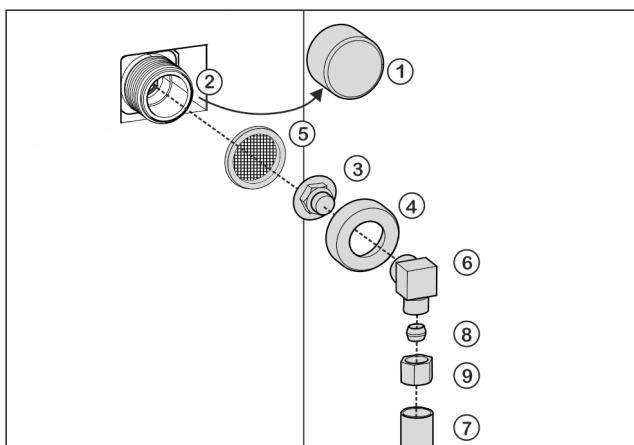

Fig. 19
- ▶ Insert coupler *Fig. 19 (3)* into union nut *Fig. 19 (4)*.
- ▶ Insert the filter *Fig. 19 (5)* with the recess pointing down towards the coupler *Fig. 19 (3)*.
- ▶ Screw the union nut *Fig. 19 (4)* by hand onto the thread of the solenoid valve *Fig. 19 (2)* until it is firmly in place.
- ▶ Screw on angle piece *Fig. 19 (6)*.
- ▶ Connect the water pipe *Fig. 19 (7)* (e. g. 1/4" OD copper pipe) with the clamp ring *Fig. 19 (8)* and nut *Fig. 19 (9)* to the elbow connector *Fig. 19 (6)*.
- ▶ If necessary: Fasten the water pipe *Fig. 19 (7)* to the housing with the guide clip.
- ▶ Put angle piece *Fig. 19 (6)* to one side.
- ▶ Connect the water pipe *Fig. 19 (7)* (e. g. 1/4" OD copper pipe) with the clamp ring *Fig. 19 (8)* and nut *Fig. 19 (9)* to the coupler *Fig. 19 (3)*.
- ▶ Remove cap *Fig. 19 (1)* from solenoid valve *Fig. 19 (2)*.